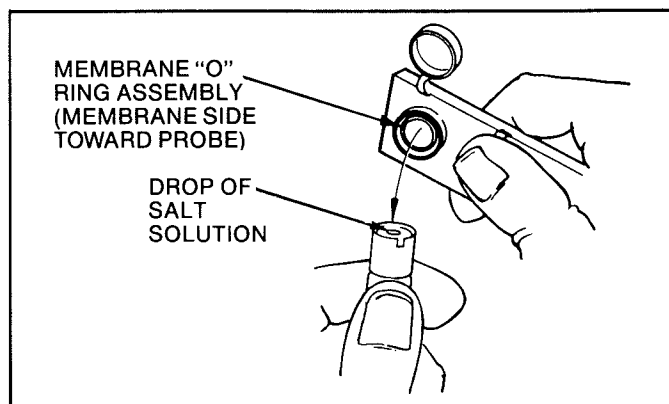

Figure 13. Installing a new membrane on the lactate probe.
30. Install a new membrane on the lactate probe. (See Figure 13.)